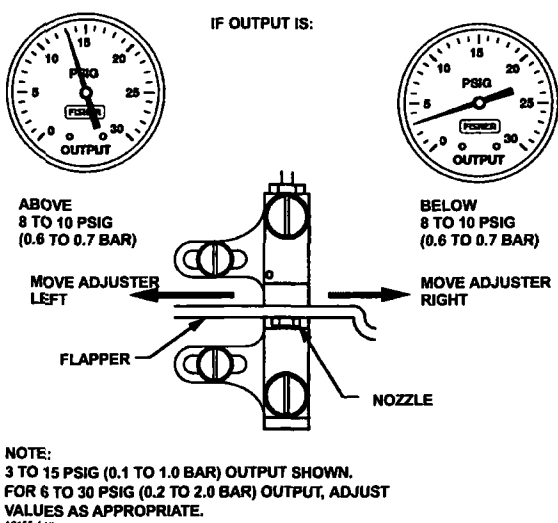

Figure 10. Reverse-Acting Controller Span Adjustment—Proportional-Plus-Reset Controllers
11. If the output pressure is not between 8 and 10 psig, adjust the controller span by loosening one of the two adjusting screws (key 43) and move the calibration adjuster (key 41) a small distance as indicated in figure 10.
13. For controllers with anti-reset windup (Type 4160KF and 4162KF), remove the two machine screws, anti-reset windup cover, and two O-rings installed in step 1 of this procedure. Install the anti-reset windup assembly (key 186) with the arrow pointing in the direction recorded in step 1.